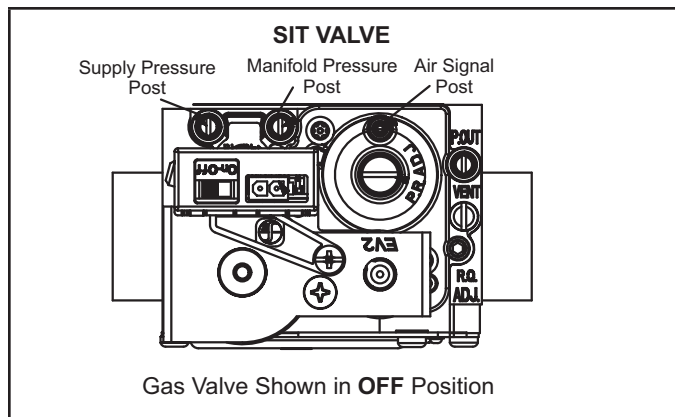

FIGURE 33
Gas Valve Operation (FIGURE 33)
- 6 - Move gas valve switch to OFF position. Do not force. See FIGURE 33.
- 8 - Move gas valve switch to ON position. Do not force. See FIGURE 33.
- 4 - Move gas valve switch to **OFF** position. Do not force. See FIGURE 33.